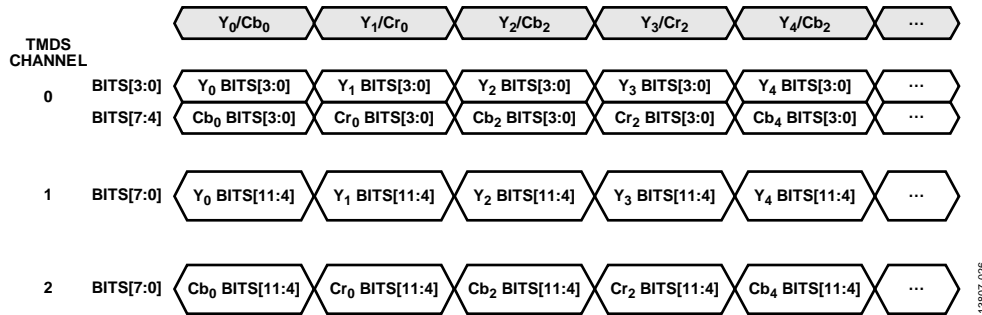
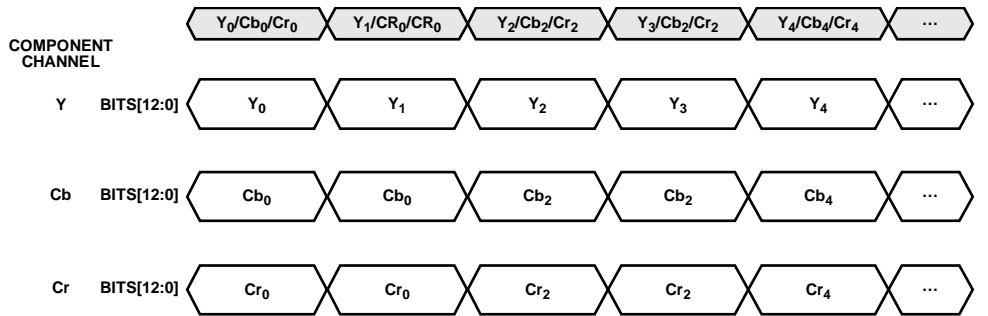

Figure 26. YCbCr 4:2:2 Video Data Encapsulated in HDMI Stream
Figure 27. Video Stream Output by HDMI Core for YCbCr 4:2:2 Input and UP\_CONVERSION = 0
- If the HDMI section receives a stream with video encoded in a 4:2:2 format (see Figure 26), the HDMI section upconverts the video data into a 4:4:4 format, according to the UP\_CONVERSION\_MODE bit, and passes the upconverted video data to the DPP section (see Figure 27).